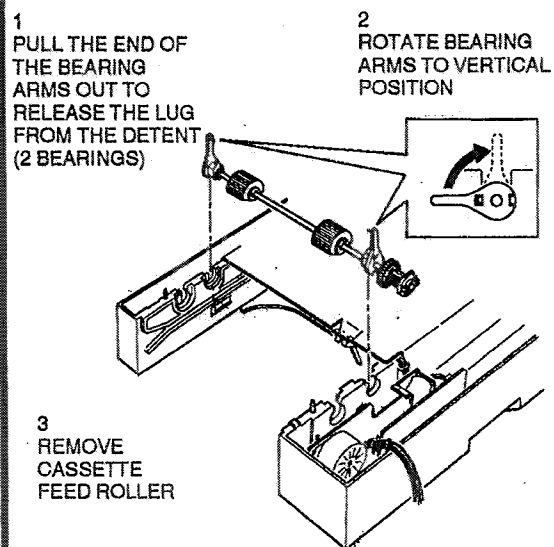

Figure 1. Tray 2 cassette feed roller removal
2. (Figure 1) Remove the cassette feed roller from tray 2.